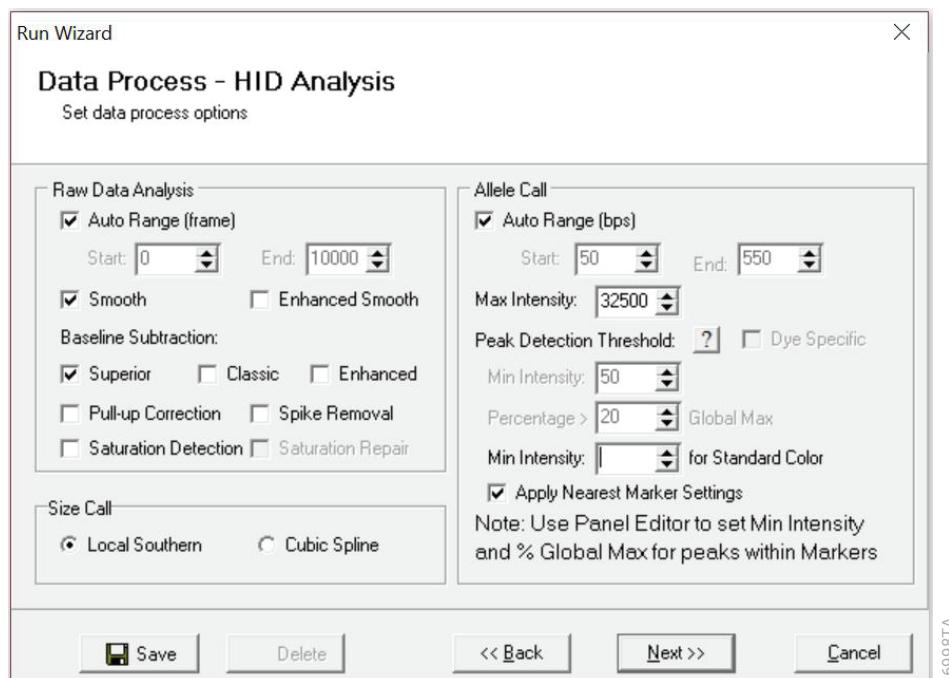

Figure 30. The ‘Data Process’ window for an analysis method.
9. The ‘Data Process’ window will appear (Figure 30). For the Raw Data Analysis, we recommend using Auto Range, Smooth, Superior Baseline Subtraction and Local Southern for the Size Call.